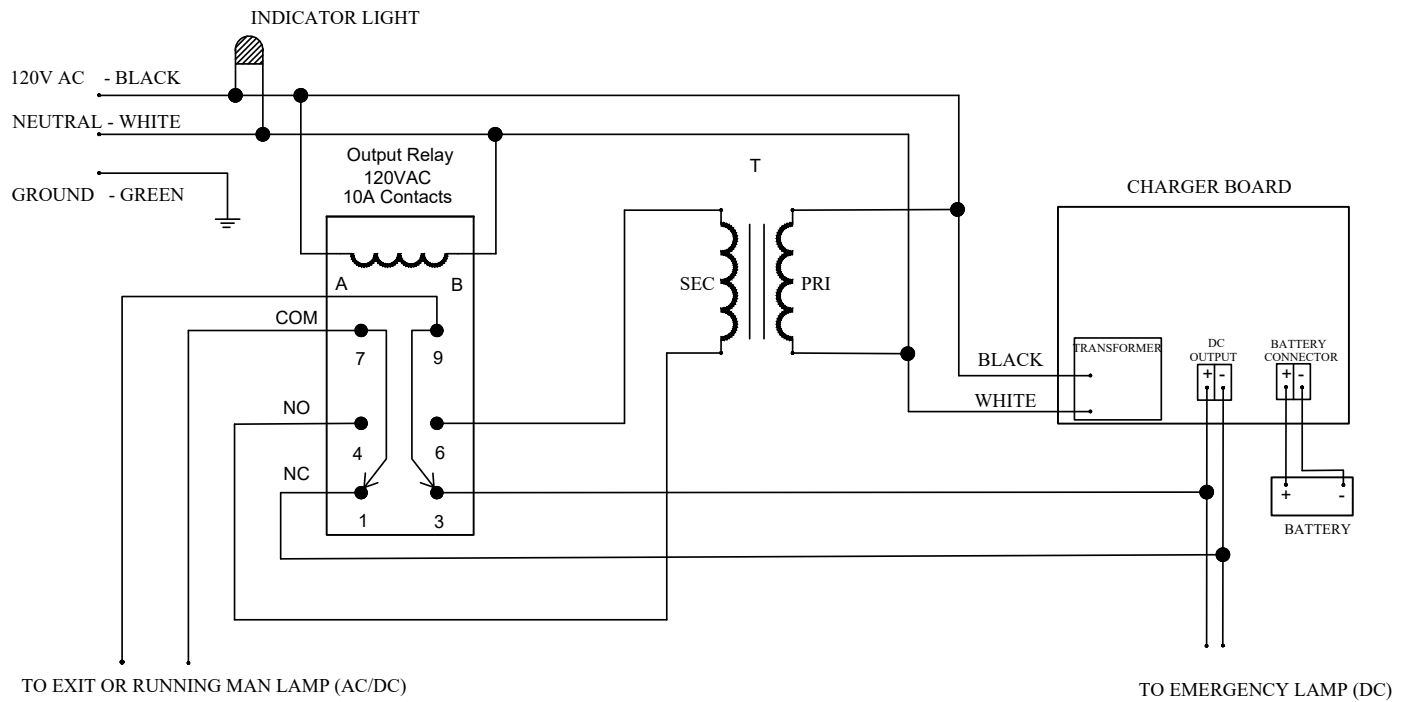

Figure 3
5. Make electrical connections; see wiring diagram (figure 3) **Units with extra options may have some wiring variation; read information on provided labels.**